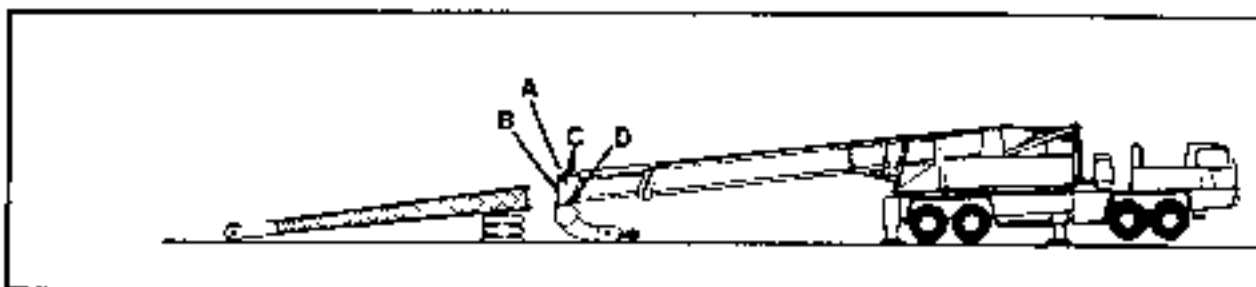

Fig. 4A-4
4. Place blocking securely under the fly section as shown in Fig. 4A-4 to support the fly when the boom is removed.